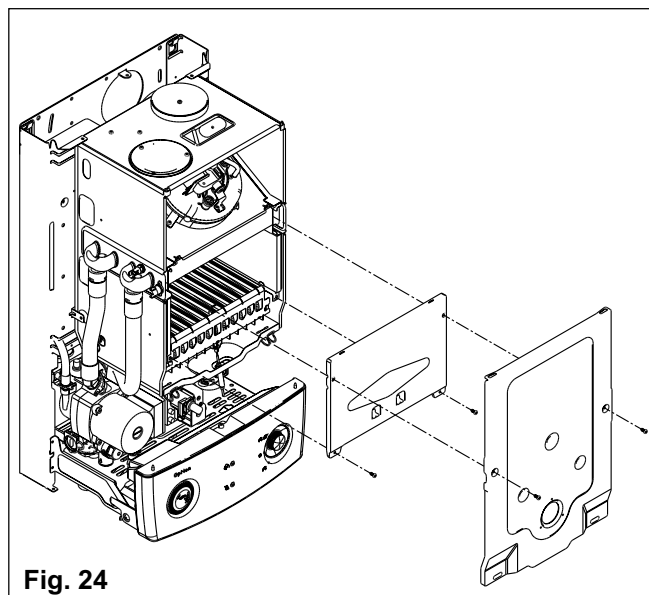

Fig. 24
6.17 BURNER, INJECTORS, AND SPARK/SENSE ELECTRODE fig. 24 & 25
6.19 HEAT EXCHANGER fig. 24 & 26
6.18 FLUE FAN fig. 24 & 28